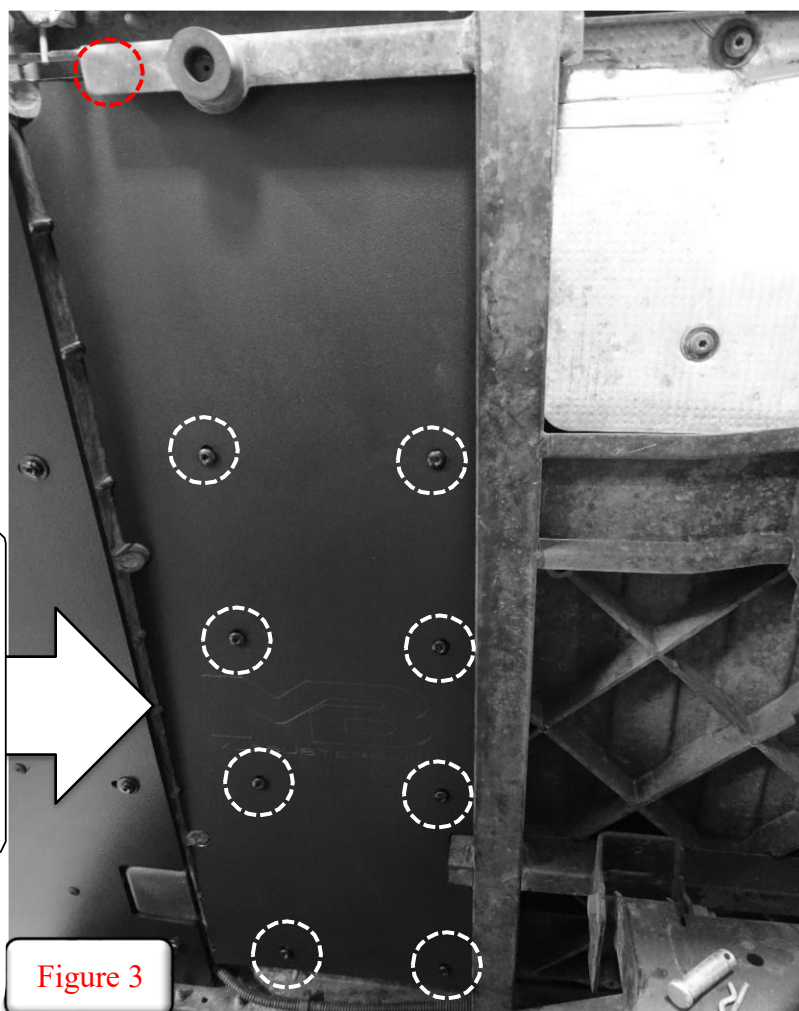

Figure 3
2. Insert the mud guard as shown in Figure 3. Depending on the year and where your Ranger was manufactured, it may be necessary to bend or trim the material for proper fitment.
3. Insert (7) 1/2" bolts as shown circled below. These bolts have a coarse thread and will install into the plastic injection ports under the dump bed.